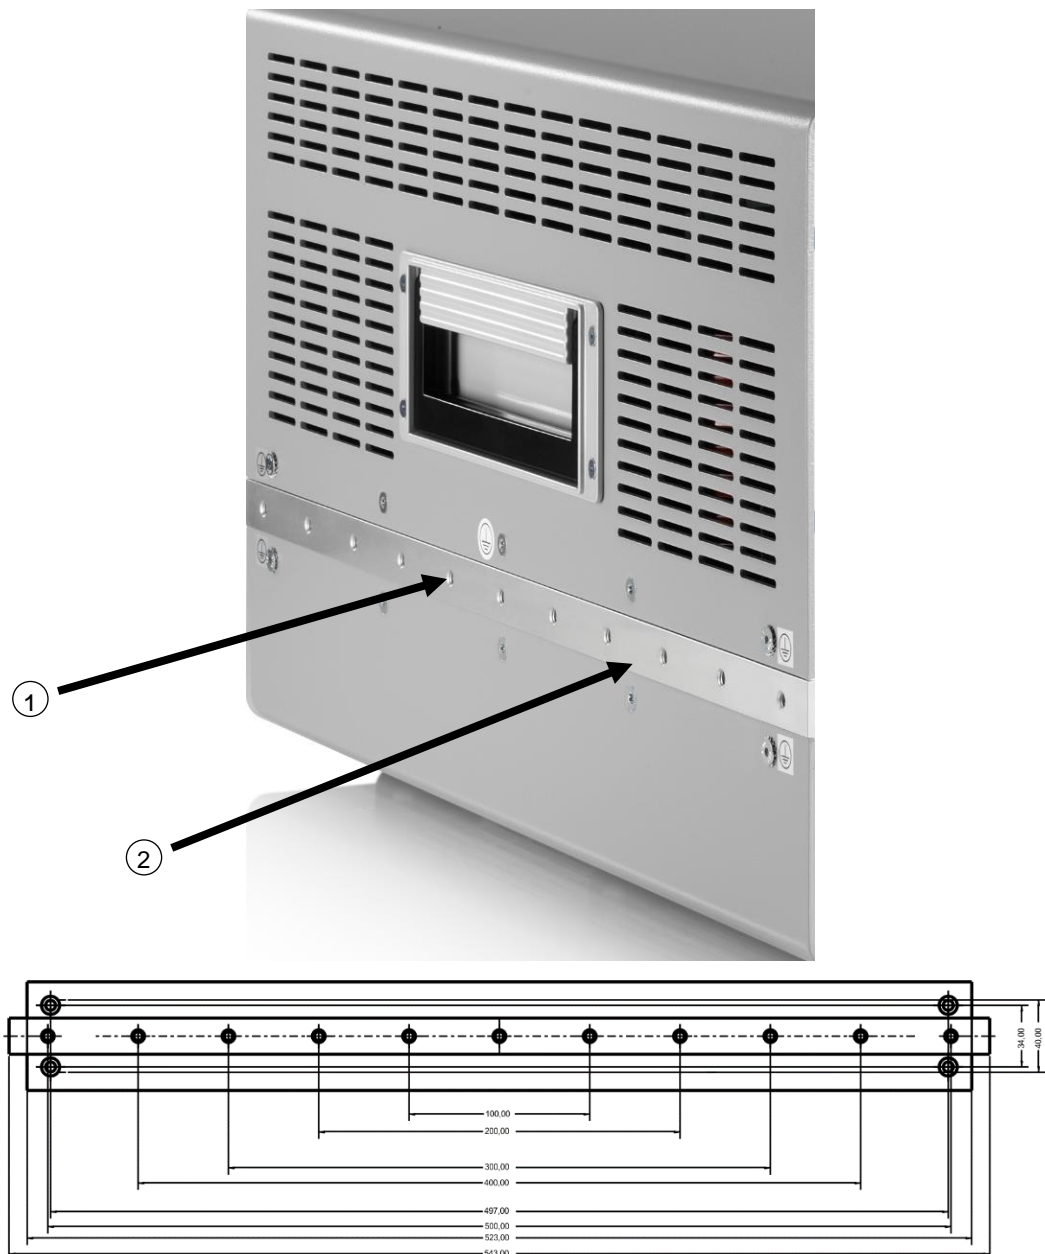

Fig. 5 Connection to RF reference ground
The RF reference mass used be connected over a wide metal sheet with eleven M6 screws (1) flatly to the side-installed ground bar (see Fig. 5).